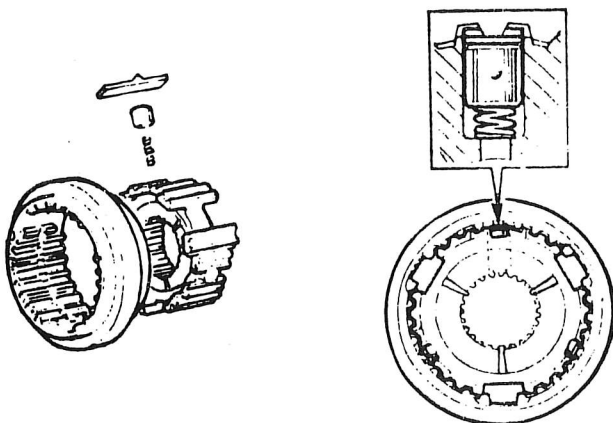

Fig.33. 3rd./4th. SYNCHRONISER
1. Fit the following parts to the shorter end of the shaft: needle roller bearing (A, Fig.32.), 3rd. speed gear (B, Fig.32.), spacer (C, Fig.32.), baulk ring (D, Fig.32.), 3rd./4th. synchroniser assembly (E, Fig.32.), ensuring that the oil grooves face towards 3rd. gear, selective spacer (F, Fig.32), and circlip (G, Fig.32). Note that the 3rd./4th. synchroniser assembly has relieved teeth and recesses on BOTH SIDES of the outer cone, whereas the 5th. synchroniser (fitted later) has relieved teeth and a recess on ONE SIDE ONLY of the outer cone. Check keyway in hub is aligned with keyway in collar (Fig.33). Lightly oil grooves.